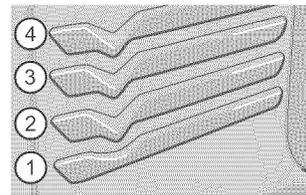

Figure 13: Rack positions
- When baking cakes using two oven racks place racks in positions 1 and 3 (See Figure 13).